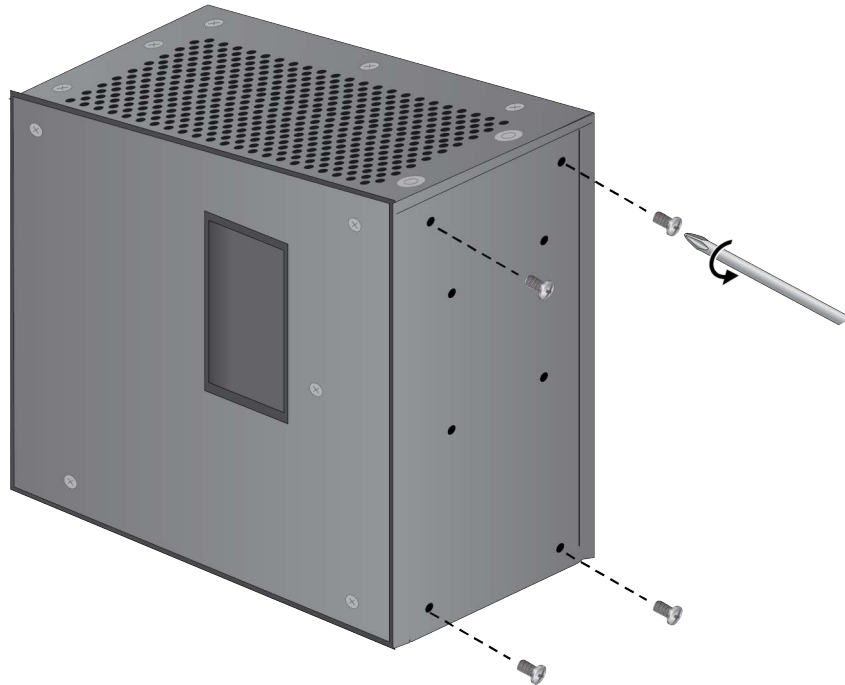

Figure 20. Removing the Four Screws from the Back Panel
3. Remove the four screws from the top and bottom of the back panel. Refer to Figure 20.
3. Remove the four screws from the top and bottom of the back panel. Refer to Figure 20 on page 70.